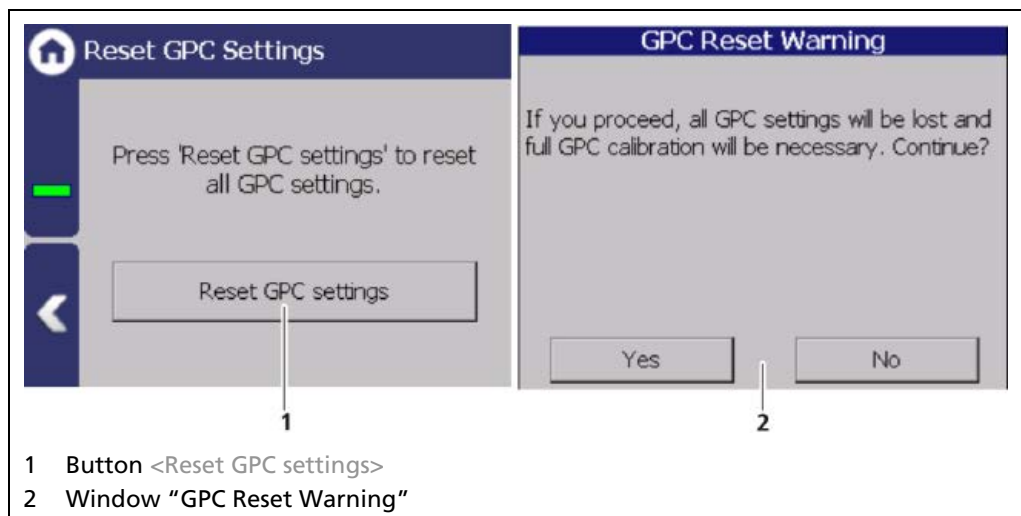

Fig. 85 Reset GPC Settings
1. Click on the button <Reset GPC settings> (Fig. 85, item 1).
▶ A confirmation message (Fig. 85, item 2) appears.